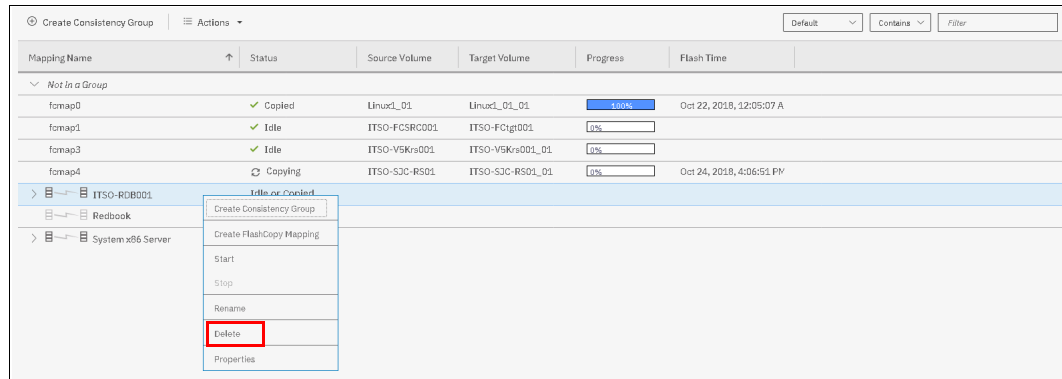

Figure 10-56 Delete Consistency Group
2. Select the FlashCopy Consistency Group that you want to delete, right-click **Delete**, as shown in Figure 10-56 on page 519.